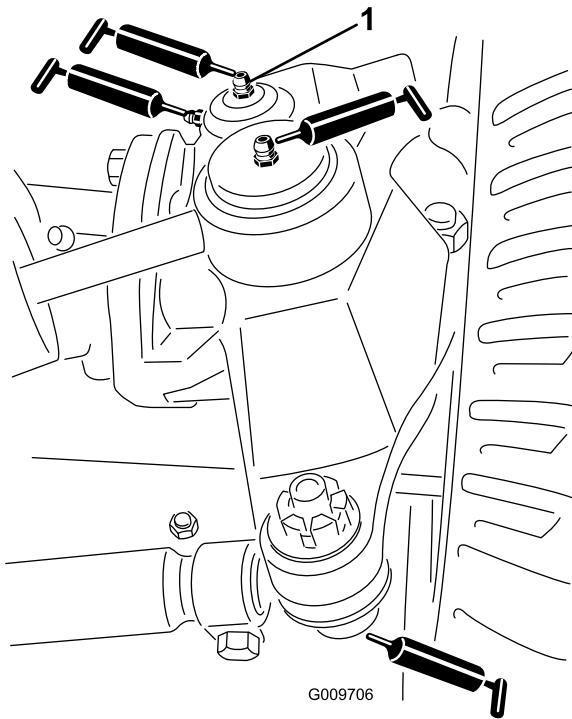

Figure 29
- Steering-cylinder ball joints (2) (Figure 29)
- Tie-rod ball joints (2) (Figure 29)
- Kingpin bushings (2) (Figure 29). **The top fitting on the king pin should only be lubricated annually (2 pumps).**